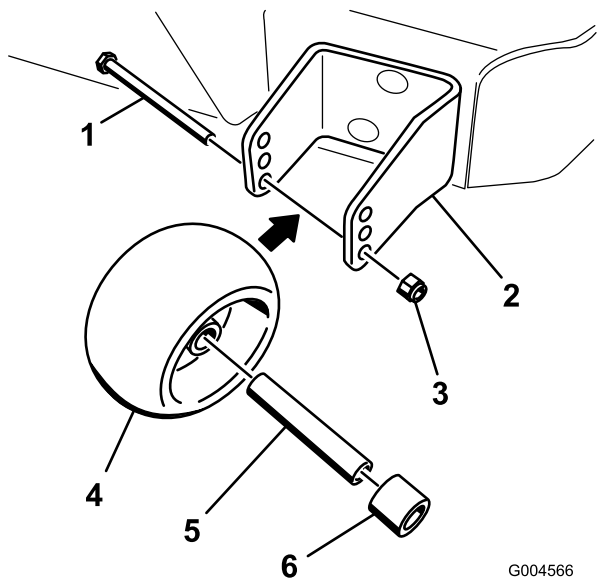

Figure 18
3. After adjusting the height-of-cut, adjust the rollers by removing the flange nut, bushing, spacer, and bolt (Figure 18).
5. Install the flange nut bushing, spacer, and bolt. Torque to 40-45 ft-lb (54-61 N•m) (Figure 18).